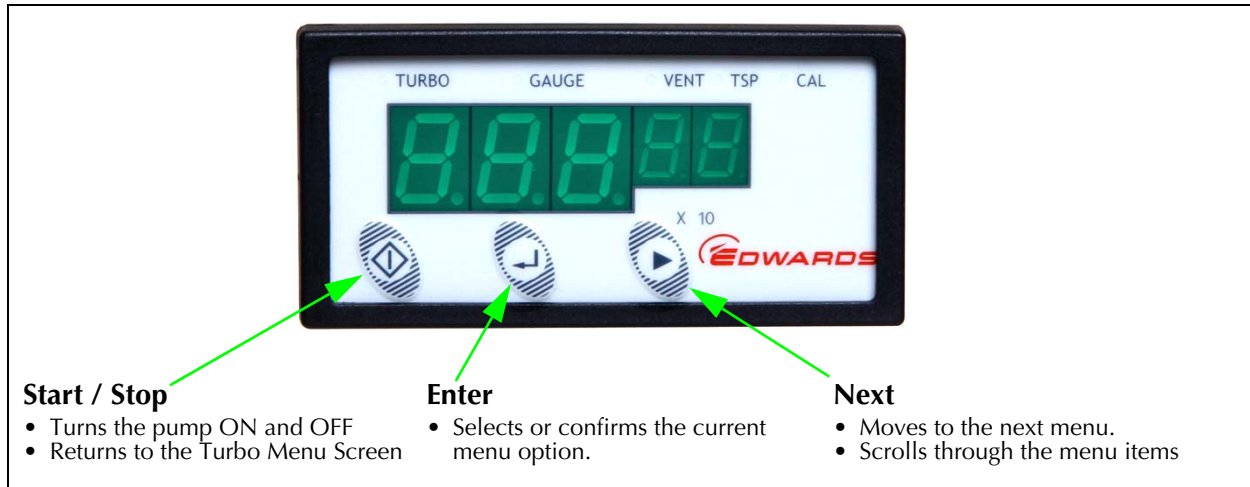

Figure 3-9 Turbo Pump Controller
5. Turn ON the turbo pump. Press the Start/Stop button on the left side on the Turbo Pump Controller. See Figure 3-9. The top left portion of the percentage sign will flash, indicating that the turbo is accelerating. When the turbo pump reaches >80%, the percent sign stops flashing. The display should read 100% when the pump reaches full speed.